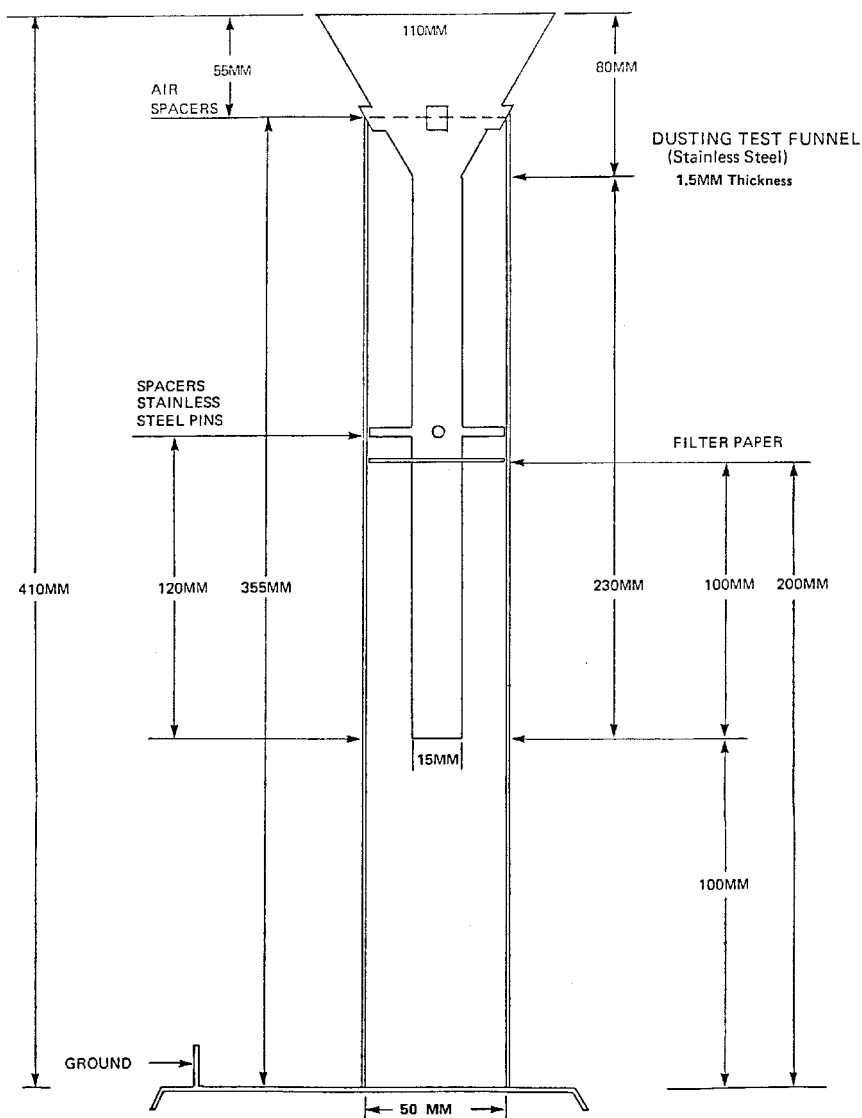

Fig. 1—Dusting test funnel.
5.1 Funnel, 1.5 mm thick stainless steel, 110 mm diameter, 230 mm stem length with 15 mm stem diameter (see Fig. 1).